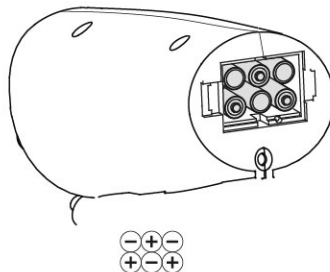

Figure.6
- Insert six pcs AA batteries into the compartment as indicated by the polarity symbols marked inside the compartment (Figure.6).